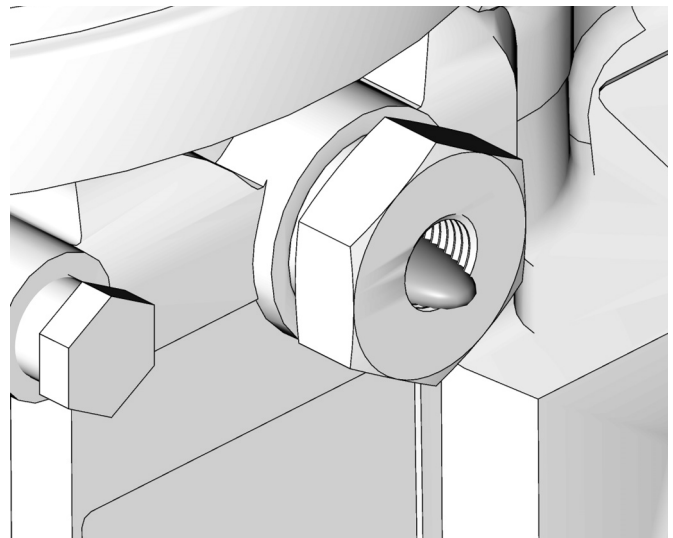

FIG. 16
2. Only run pump until air is no longer dispensed with the lubricant coming out of element fitting (FIG. 16).